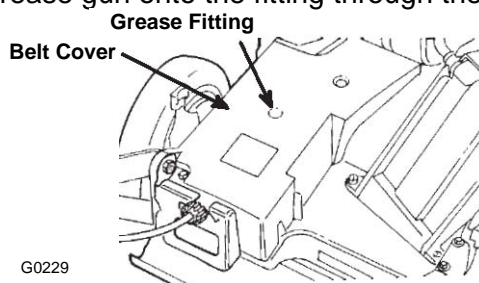

Figure 36
2. Install a grease gun onto the fitting through the belt cover opening (Fig. 36)